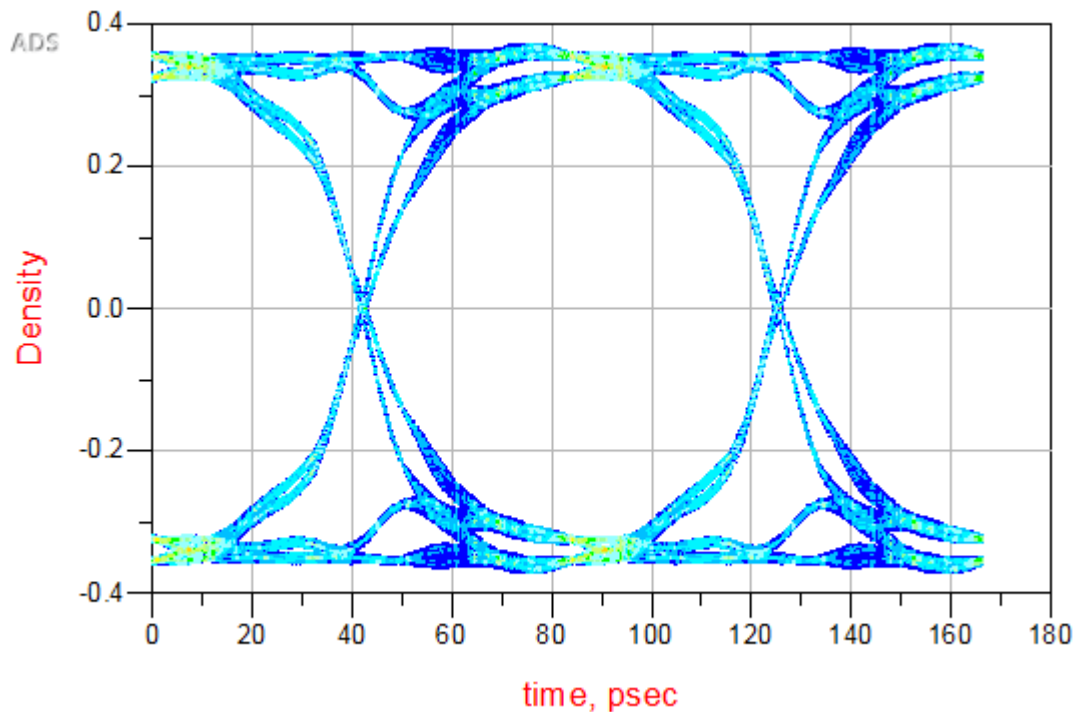

Figure 2. Eye Diagram of ADS (corner=2, Vreg=1, and emaphasis = 0)
4. In the popup after simulation, insert rectangular plot from palette panel and link density measurement to view the eye diagram. Refer Figure 2.